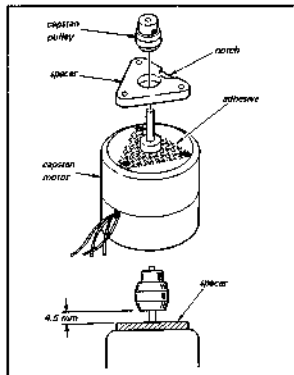

Fig. 4-19.
- Install the Capstan Pulley on the upper motor shaft. Space the bottom edge of the pulley 4.5 mm from the Spacer. See Fig. 4-19.